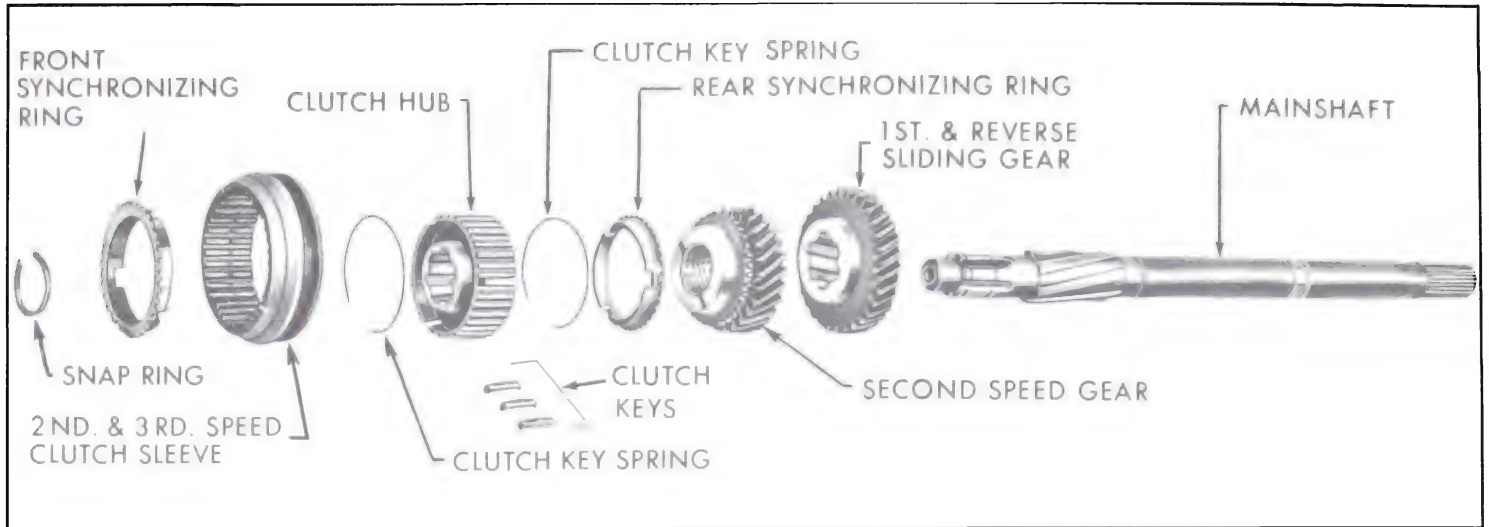

Figure 4-88—Mainshaft Assembly
23. Remove synchronizing ring from front side of 2nd and 3rd speed clutch sleeve. See Figure 4-88.
24. Remove clutch hub retaining snap ring from front end of mainshaft, using snap ring pliers as shown in Figure 4-88.
25. Remove 2nd and 3rd speed clutch sleeve and hub from mainshaft. See Figure 4-88.
26. Remove rear synchronizing ring and second speed gear from mainshaft. See Figure 4-88.
27. Remove 1st-reverse sliding gear from mainshaft. See Figure 4-88.